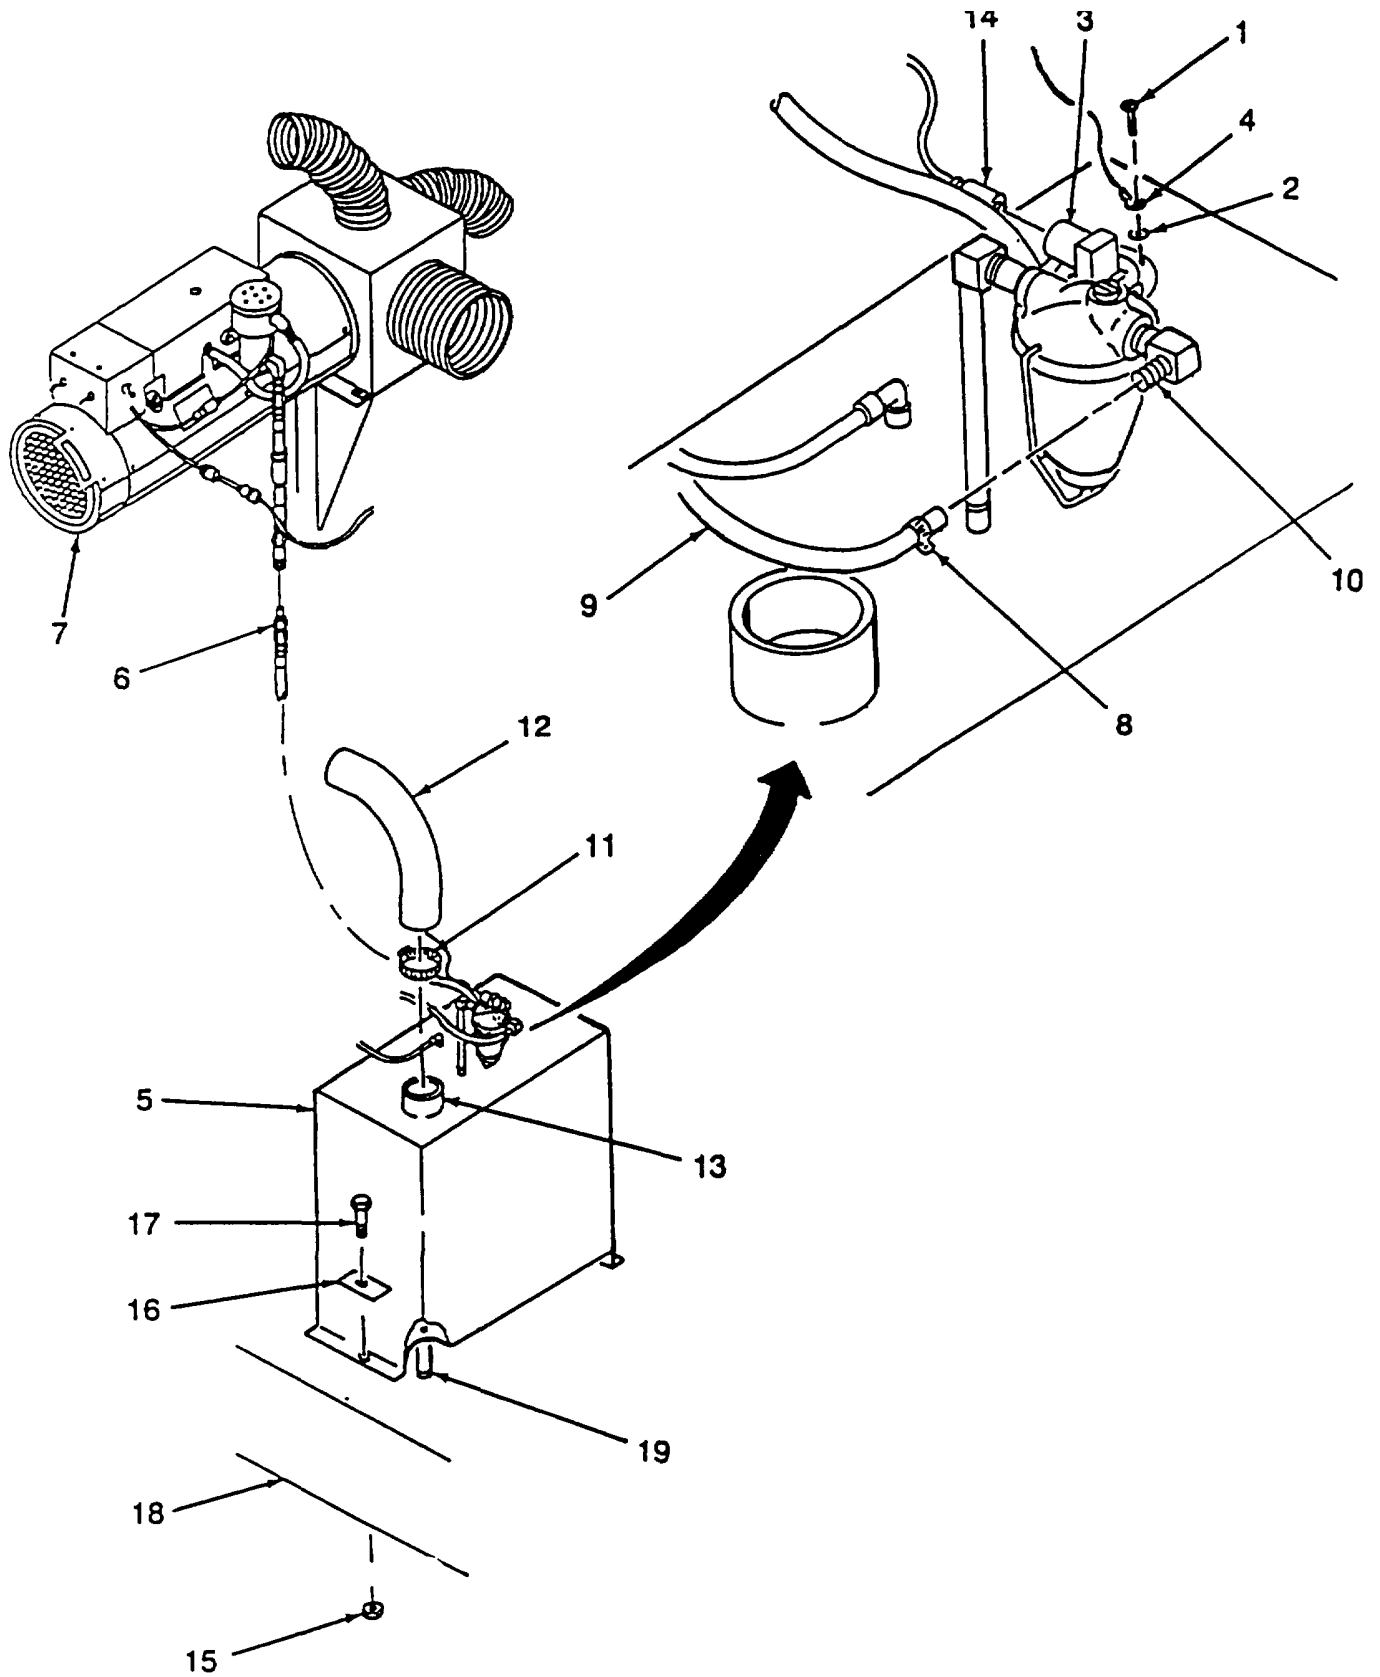

Figure 4-10. Fuel Tank Removal and Installation
b. Removal. (Refer to Figure 4-10.)
- (1) Remove pan head screw (1) and lockwasher (2) from fuel level sending unit (3), holding ground wire (4)